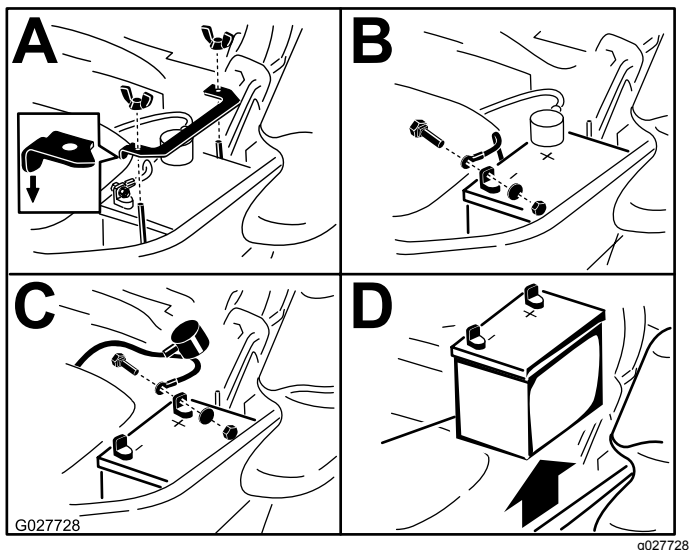

Figure 63
3. Remove the battery as shown in Figure 63.
Note: Position the battery in the tray with the terminal posts opposite from the hydraulic tank (Figure 63).